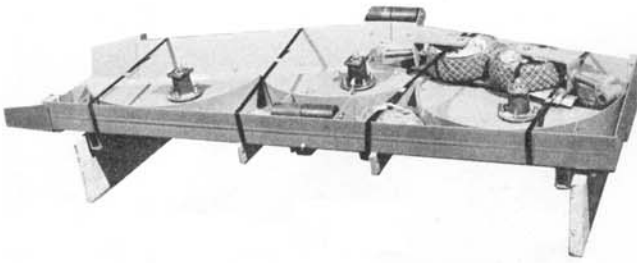

fig 3
1. Cut banding straps securing hardware and mower components. See fig 3.